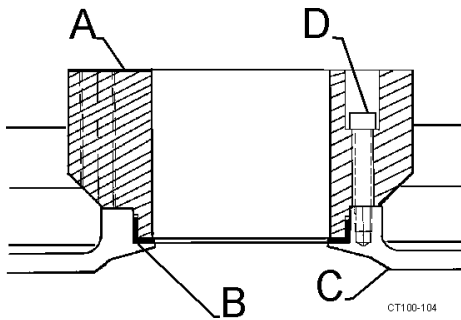

Figure 56 - Insert L-gasket, Fasten Adapter in Place
5. Insert the L-gasket into the backplate (Figure 56, items B and C).
6. Insert the cartridge adapter (Figure 56, item A) into the backplate (Figure 56, item C) and tighten with four socket head cap screws (Figure 56, item D).